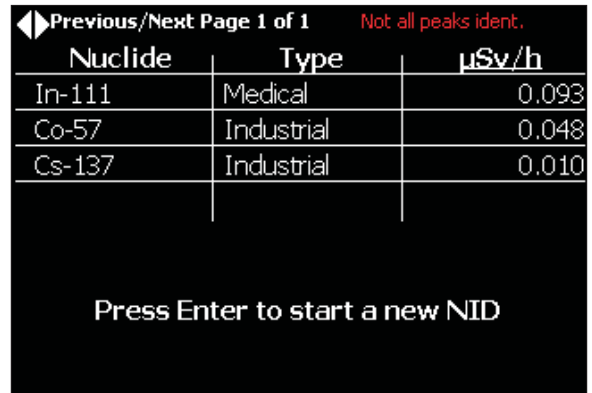

Figure 22 Simple Nuclide ID
- The **Simple** display (Figure 22) shows a table listing the nuclide, the isotope type (fission, activation, etc.), and either its dose rate or its activity.
- If data acquisition is not in progress, “Press Enter to start a new NID” (Figure 22).